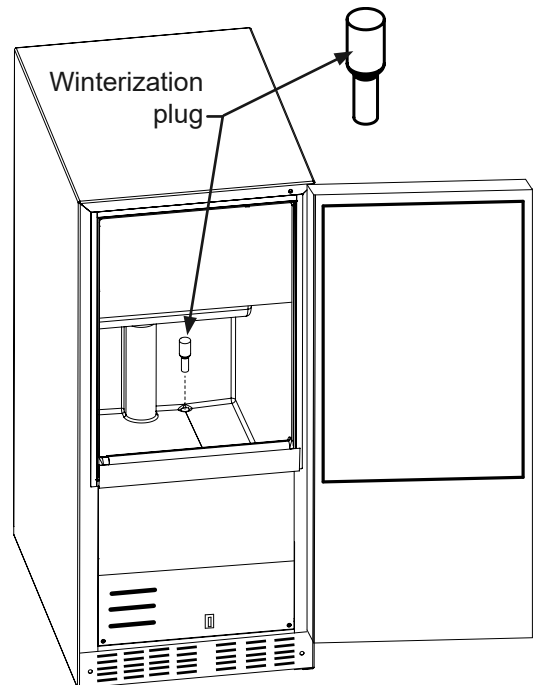

Figure 32
13. Install the winterization plug in the water drain hole inside the ice bin. (See Figure 32).